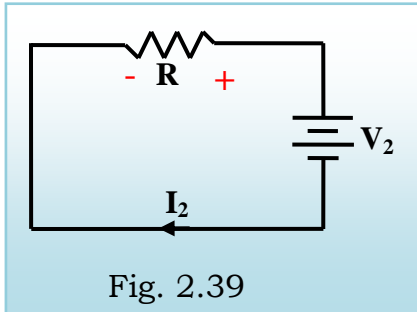

Fig. 2.39
**When the response due to source  $V_2$  alone is considered**, source  $V_1$  is replaced by a short circuit. Let the current through the resistor be  $I_2$ , as shown in fig. 2.39.